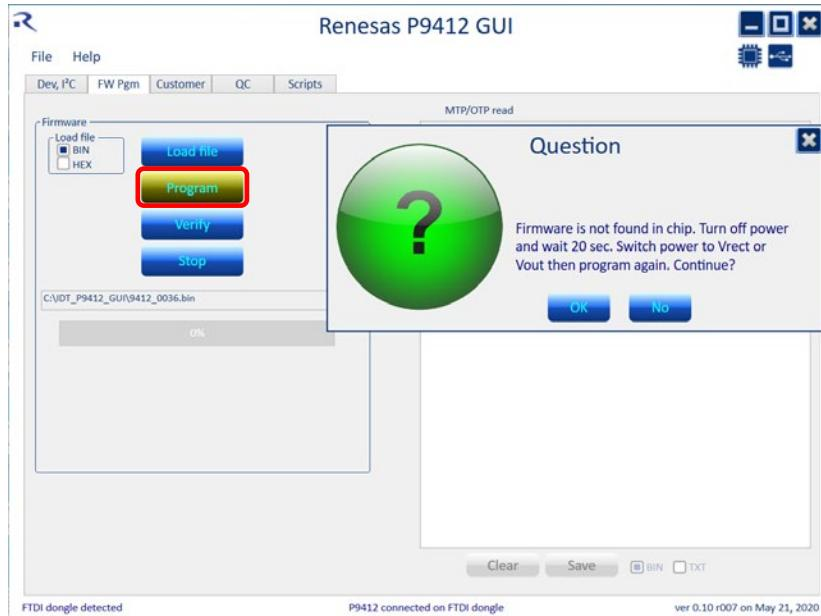

Figure 9. GUI Detects an Unprogrammed Part and Issues a Warning
a. If an un-programmed part is detected, the GUI will issue a warning message (see Figure 9). Follow the instructions: Turn off the external P/S and connect to Vrect or Vout, wait for 20 seconds, then turn on the P/S and try to program again by “clicking” on the OK button. Failure to connect the external P/S to Vrect or Vout when programming a blank IC can result in damage to the part.